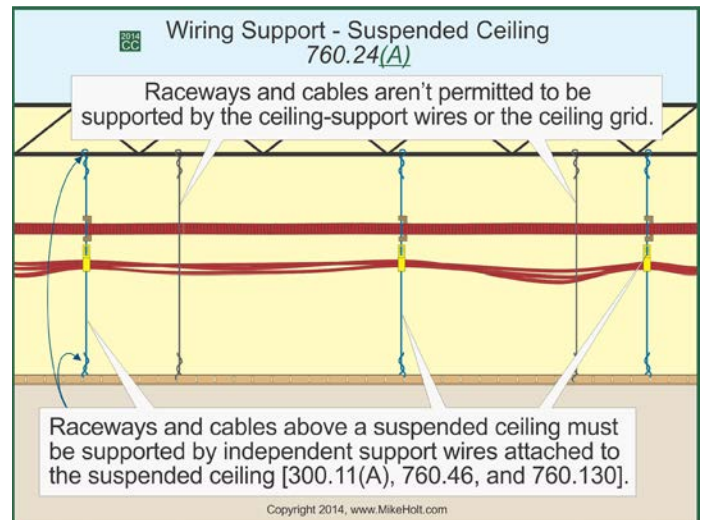

Figure 760-9
- Raceways and cables above a suspended ceiling must be supported by independent support wires attached to the suspended ceiling [300.11(A), 760.46, and 760.130]. **Figure 760-9**